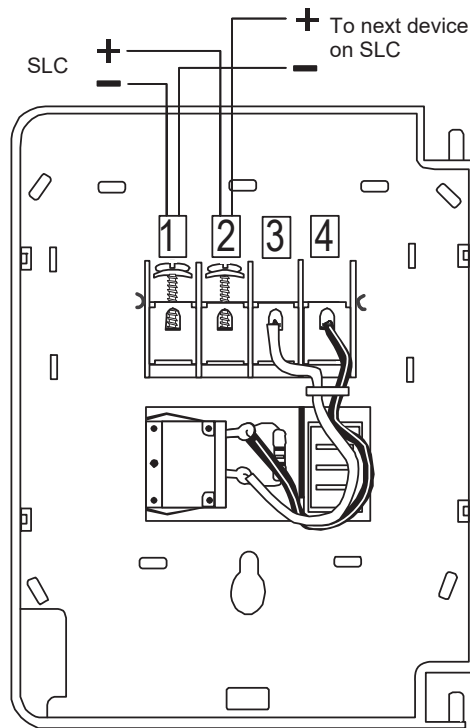

Figure 11.2 Wiring of an IDP-PULL-SA and SK-PULL-SA Pull Station to an SLC
11.2.4 Figure 11.2 shows typical wiring for an **IDP-PULL-SA** and **SK-PULL-SA** Manual Pull Station to an SLC: **Wiring an SD500-**
Figure 11.2 shows typical wiring for an **SD500-PS/DA** Manual Pull Station to an SLC: